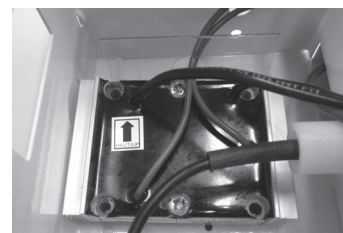

FIG. 2
3. Pass the blue wires of the relay through the hole of the separator FIG. 2